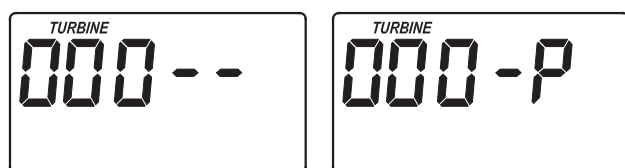

FIG. 36
1. Press and hold for 3 seconds the SELECT button, until one of the screens shown in Figure 36 is displayed. If the valve is in service, fill, solution draw / brining, backwash or fast rinse position (observe markings on the valve cam), the display should show "000 - -", meaning the position switch is open. When the valve is moving, the display should show "000 - P", meaning that the position switch is closed.
If a turbine has been installed in your filter's valve outlet port, the first 3 digits of the display in Figure 36 should count upward whenever water is flowing through the system.